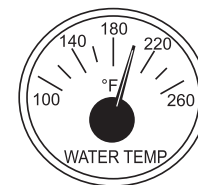

Figure 37. Coolant Temperature Gauge
13. The **coolant temperature gauge** (Figure 37) will indicate the coolant temperature. Under normal operating conditions, the coolant temperature should be approximately 180°F (82°C).